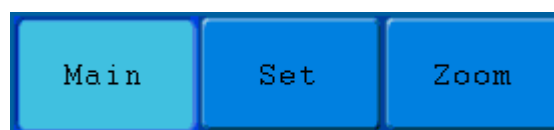

Figure 5-12 Time Base Mode Menu
3. **HORIZ MENU** button: with this button pushed down, the screen shows the operating menu (see *Figure 5-12*).